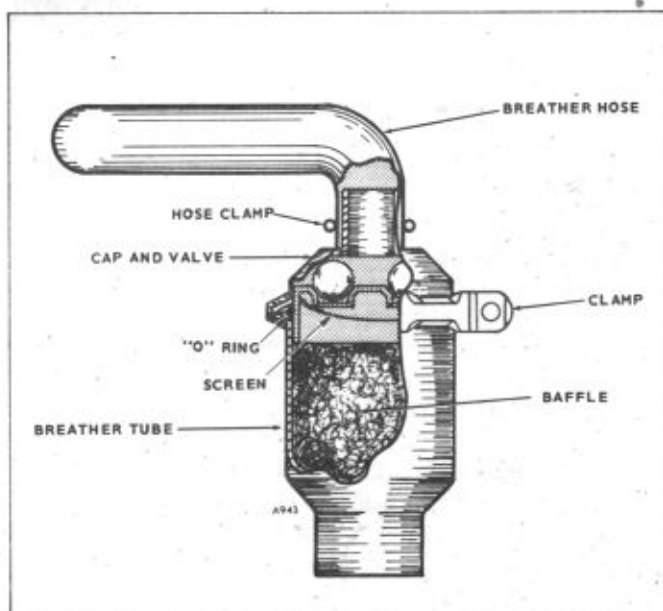

Figure 39. Breather Valve Assembly
**Crankcase Breather Valve:** This valve requires cleaning only. To clean, remove hose clamp, breather hose, breather cap clamp, and insulator valves (air cooled units only) to release breather cap and valve assembly. Wash the baffle in fuel, and re-install. Figure 39 shows the breather valve assembly. (Used on Spec "R" & later models).